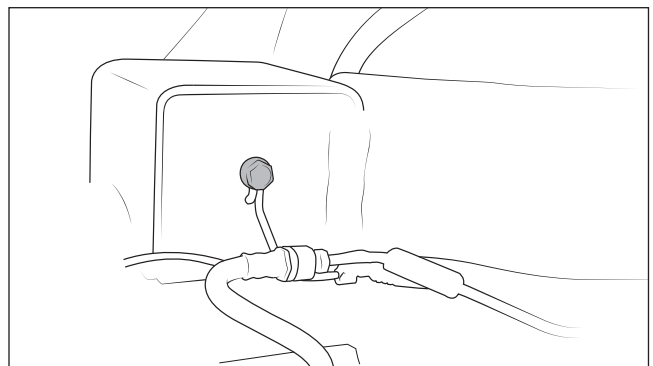

Figure 4
11. Remove the left side brake line bolt at the axle (fig. 4).